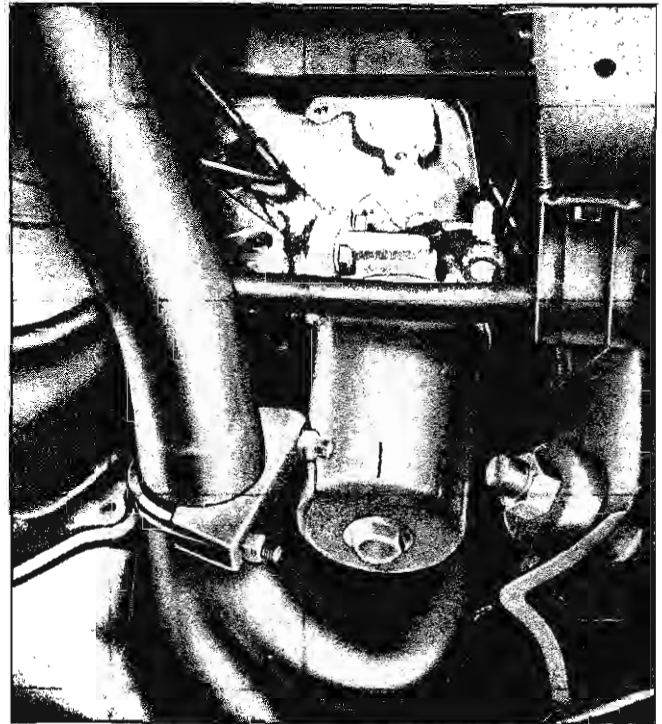

Fig. 6A-13 Filter Cartridge Installed
4. Hand tighten filter on hollow center stud until gasket contacts filter base (Fig. 6A-13) then complete tightening with additional  $\frac{3}{4}$  turn of filter but DO